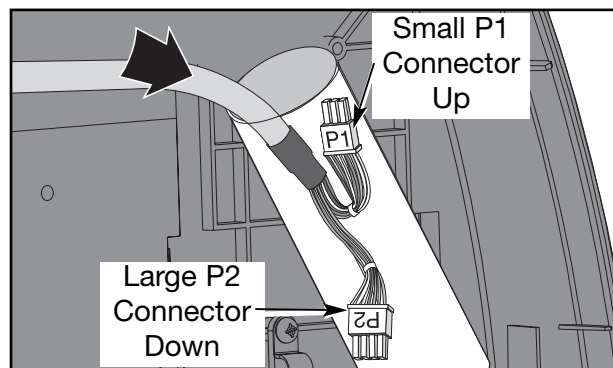

Figure 32
B. Push the P2 connector down into the top handrail hole with the P1 connector pointing up. See Figures 32 and 33.